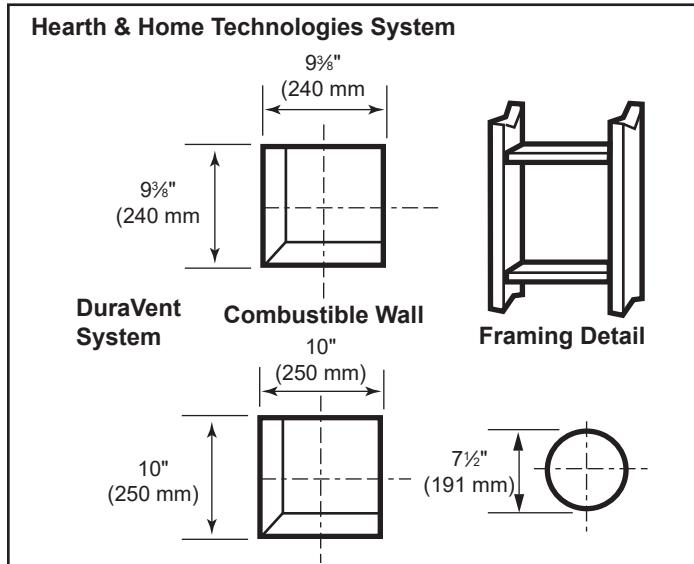

Figure 22 - Locate vent opening
- Locate the vent opening on the wall. Refer to Figure 5, to determine the opening centerline. It may be necessary to first position the stove and measure to find the hole location. Depending on whether the wall is made of combustible materials, cut the opening to the size shown in Figure 22. Combustible wall openings must be framed as shown in Figure 22.